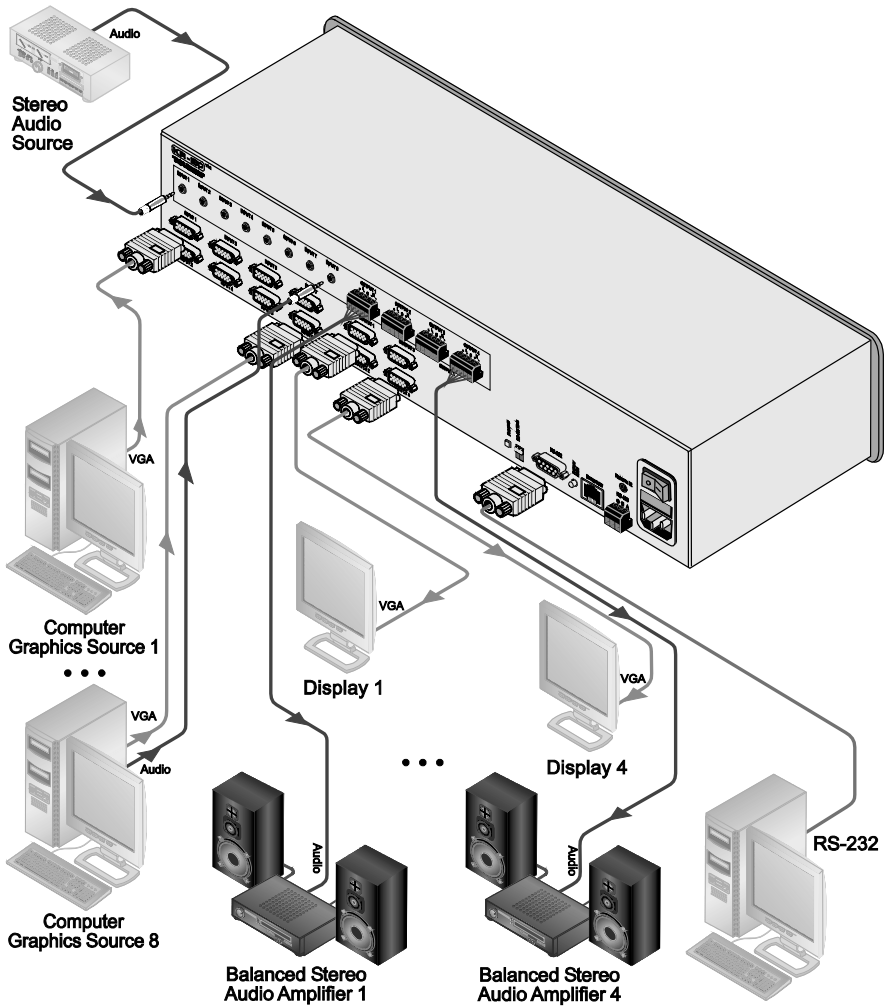

Figure 3: Connecting the VP-8x4AK 8x4 VGA / UXGA / Audio Matrix Switcher
To connect¹ the **VP-8x4AK**, as illustrated in the example in Figure 3, do the following²:
6. Connect the power cord (not shown in Figure 3)³.